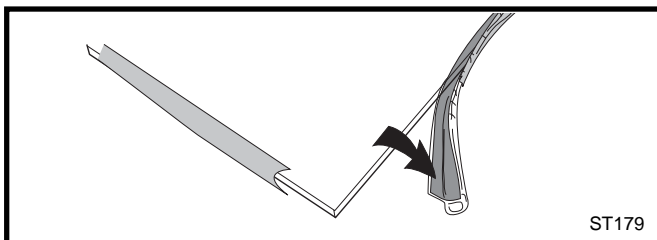

Fig. 67 Wrap the gasket material around the outside edge of the glass.
3. Starting on a long edge, remove about 6" of the protective paper strip and apply the flat adhesive face of the gasket around the outside-facing edge of the panel. Continue around the panel, applying about 6" at a time and being careful to not stretch the material. Do not overlap the gasket ends. (Fig. 67)